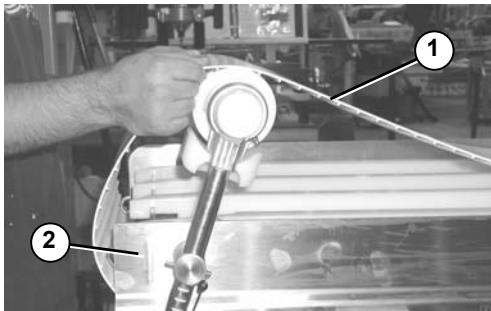

Figure 6
5. Slide the belt (Figure 6, item 1) over the conveyor frame (Figure 6, item 2).